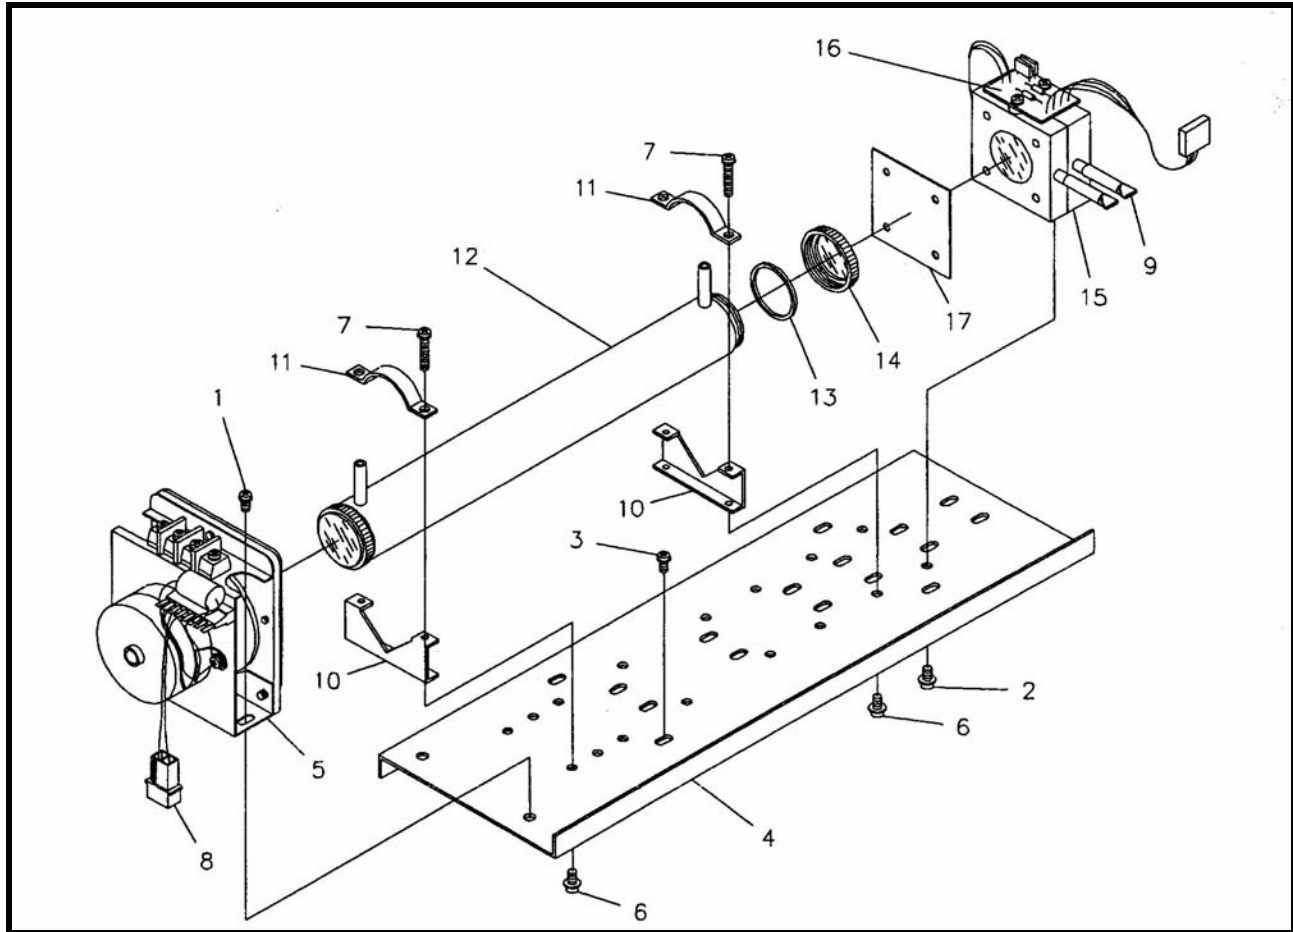

Figure 5-1 Optical Bench with Pipe Sample Cell
| Pipe Cell (Cell length: 64 mm, 125 mm, or 250 mm). | Figure 5-1 This figure illustrates the pipe cell | 5.3.1 describes the disassembly cleaning and reassembly |
(Figure 5-1)
- e) After loosening (do not remove) the two screws (No. 1 in Figure 5-1) which are used for securing the infrared light source unit (No. 5 in Figure 5-1) to the base plate, shift the infrared light source away from the pipe cell (No. 12 in Figure 5-1) to form a gap.
- f) After removing the pipe cell retainer screws (No. 7 in Figure 5-1), remove the retaining clamps (No. 11 in Figure 5-1).
- g) Carefully remove the cell from the optical bench and remove both windows (right-hand threaded) (No. 14 in Figure 5-1).
- h) At this time, inspect the O-Ring (No. 13 in Figure 5-1) for signs of deterioration. Replace if necessary.
- j) The pipe cells contain a reflective metal foil liner (not shown in Figure 5-1) to enhance the light energy through put in the cell. Normally it is not necessary to remove the liner for cleaning; however, the liner should be removed if the cell is subjected to grossly excessive moisture. If necessary, clean both sides of the liner and the inside of the pipe cell. If the liner has been subjected to a corrosive substance, it should be replaced. In either case, ensure that the small gas holes in the liner are aligned with the gas fittings at both ends of the pipe cell before reassembling the windows.
- p) At this time, inspect the O-Ring (No. 13 in Figure 5-1) for signs of deterioration. Replace if necessary.
- r) The pipe cells contain a reflective metal foil liner (not shown in Figure 5-1) to enhance the light energy through put in the cell. Normally it is not necessary to remove the liner for cleaning; however, the liner should be removed if the cell is subjected to grossly excessive moisture. If necessary, clean both sides of the liner and the inside of the pipe cell. If the liner has been subjected to a corrosive substance, it should be replaced. In either case, ensure that the small gas holes in the liner are aligned with the gas fittings at both ends of the pipe cell before reassembling the windows.